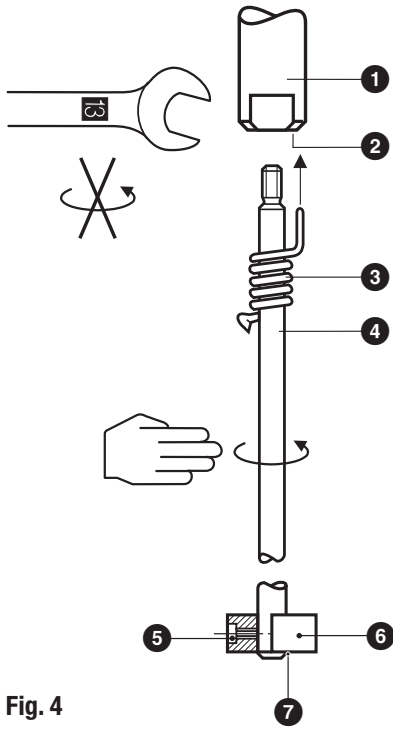

Fig. 4
1. Screw electrode tip ④ into measuring electrode ①, **Fig. 4**
3. Mark length of electrode tip ④.
4. Unscrew electrode tip ④ from measuring electrode ① and cut tip.
5. Screw electrode tip ④ into measuring electrode ① and tighten. Slide spring ③ along electrode tip ④, so that its bent end completely enters into small bore ②.
6. Slip disk ⑥ onto electrode tip ④ ensuring that the electrode tip protrudes 2 mm from disk. Fasten disk with grub screw ⑤. Push retaining ring ⑦ from below over electrode tip against disk ⑥.